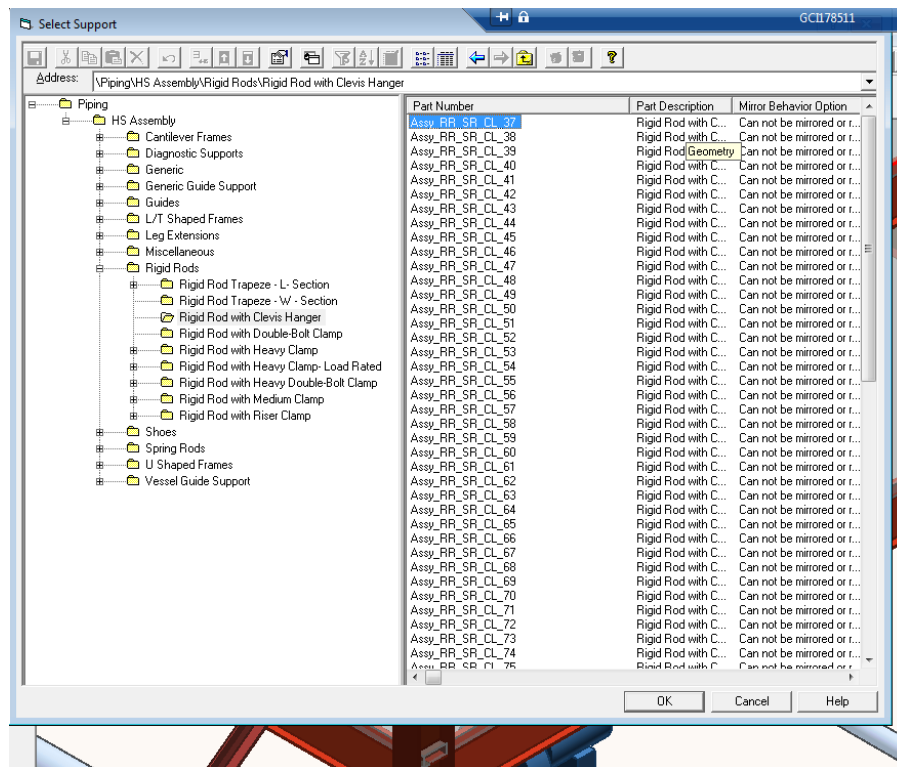

Figure 8: The drop down list of the supports
- 4- From the **Type** drop-down list, select Assy_RR_SR_CL_37 as shown in Figure 8.